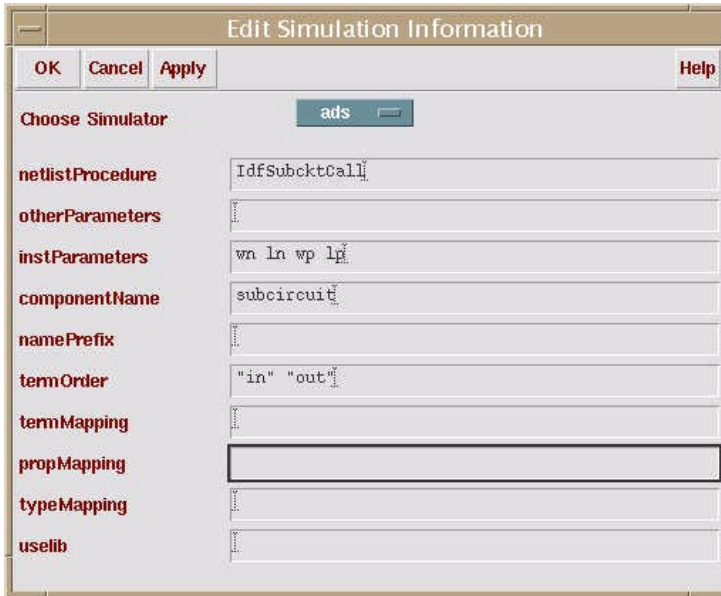

Figure 9-7. Edit Simulation Information Dialog
2. When the *Edit Simulation Information* dialog (see Figure 9-7) appears, change the *Choose Simulator* setting to “ads”.